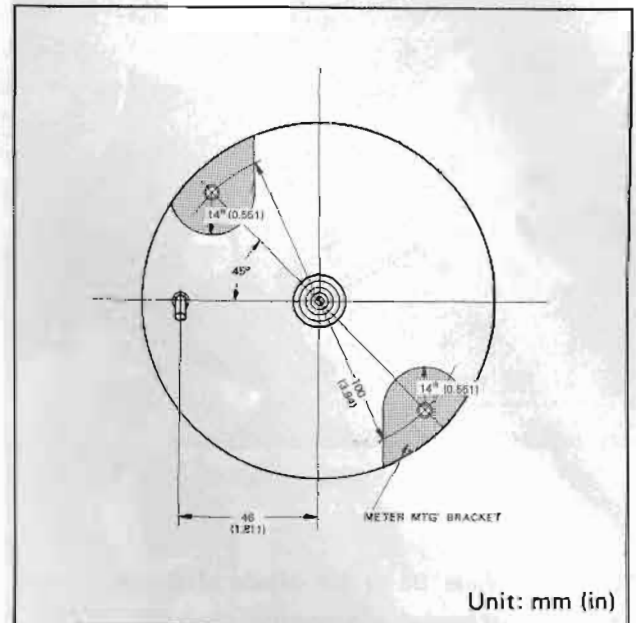

Fig. BE-14 Details of speedometer installation brackets
c. See Figure BE-14 for details of the speedometer support bracket and mounting bracket.